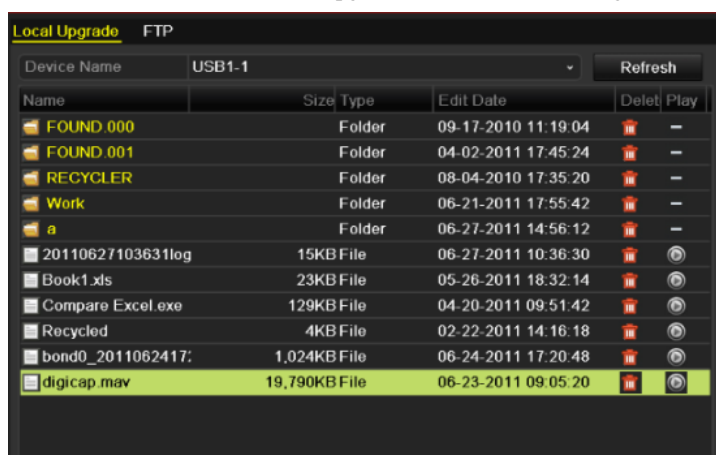

Figure 14. 13 Local Upgrade Interface
3. Click the **Local Upgrade** tab to enter the local upgrade menu, as shown in Figure 14. 13.